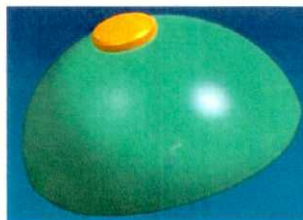
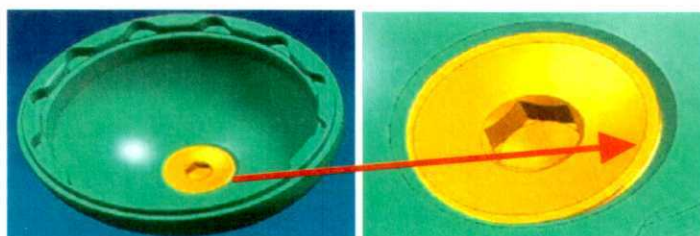

Figure 1: Apex HE thread through the cup
Figure 2: Apex HE angled, protruding internally in Pinnacle Cup
This FSN is intended to advise physicians, who use the Apex HE, of the oversize condition of the hole in the cup, which could lead the Apex HE to thread through the shell of the cup without stopping (refer to **Figure 1**) or to protrude internally as a result of “cross-threading” (refer to **Figure 2**). This may occur if the Apex HE is manipulated or toggled while threading it through the hole of certain PINNACLE® CUP devices. If cross-threading occurs, physicians will not feel the positive stop of the Apex HE against the cup.
- If the Apex HE sits proud internally as shown in Figure 2, the ceramic liner for the affected cup may fracture. Therefore, if not detected intraoperatively, the patient may experience poor joint mechanics and pain.